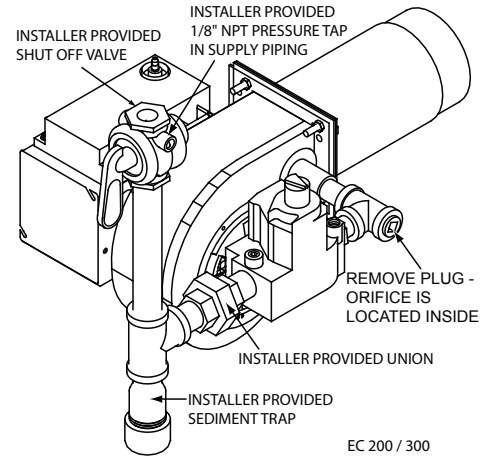

Figure 6: Piping Connections
CAUTION: The available gas pressure should be within the limits shown in the SPECIFICATIONS section. Excessive pressure will damage the Combination Gas Valve and Regulator. If the supply pressure exceeds the 14.0" W.C. maximum, a suitable intermediate main regulator must be installed ahead of the Main Manual Shut-Off Valve shown in Figure 6.
- Provide a sediment trap, union and 1/8" pressure tap in piping close to burner as shown in Figure 6.
- If the burner piping must be rearranged because of space limitations, be sure to carry out the general arrangement shown in Figure 6. The Combination Gas Valve will operate and can be installed in any position except up-side down.
- To change the orifice, turn off the Main Manual Shut-Off Valve and the main electric to the burner Refer to piping diagram, Figure 6, to locate the orifice location if required.